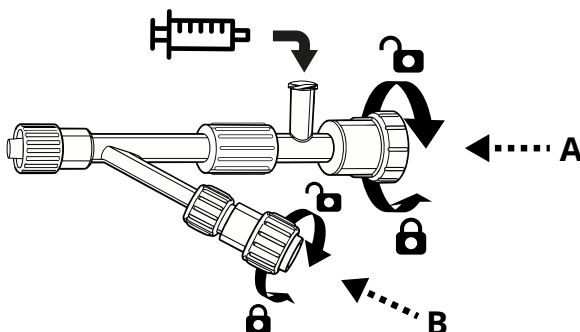

Figure 2: Fluidic connector, with the two entry ports for tools (A) and (B), as well as the flush port (indicated by a syringe symbol).
It is supplied with a fluidic connector (*Figure 1*, (3), details in *Figure 2*) that allows a fluid to be injected to facilitate vision in the peripheral zones of the lung. A syringe with a standard luer-type tip can be connected to the flush port (see *Figure 2*). When using both tools simultaneously, the Y-connector allows the *Iriscope 12* probe to be passed (always in port (B), see *Figure 2*) and the biopsy tool (always in port (A), see *Figure 2*). Ports (A) and (B) are made leak-tight by turning the tightening screw (as shown in *Figure 2*). Tightening the entry ports also fixes the position of the tool passing through them.
3. Tighten the tightening screw of the port (B) connector to fix it onto the *Iriscope* probe and make the entry leak-tight (Figure 2). Optionally, insert a forceps in port (A) until its tip appears in the image of the *Iriscope* probe. Tighten the screw of port (A) (even if no tool is inserted in it) to make the entry leak-tight. Flushing with a syringe allows the seal to be tested.
The fluidic connector (Figure 2) allows flushing around the *Iriscope* probe inserted in the catheter during use. Once in position, tighten the tightening rings of ports (A) and (B) (smoothly without excessive force, to avoid damaging the